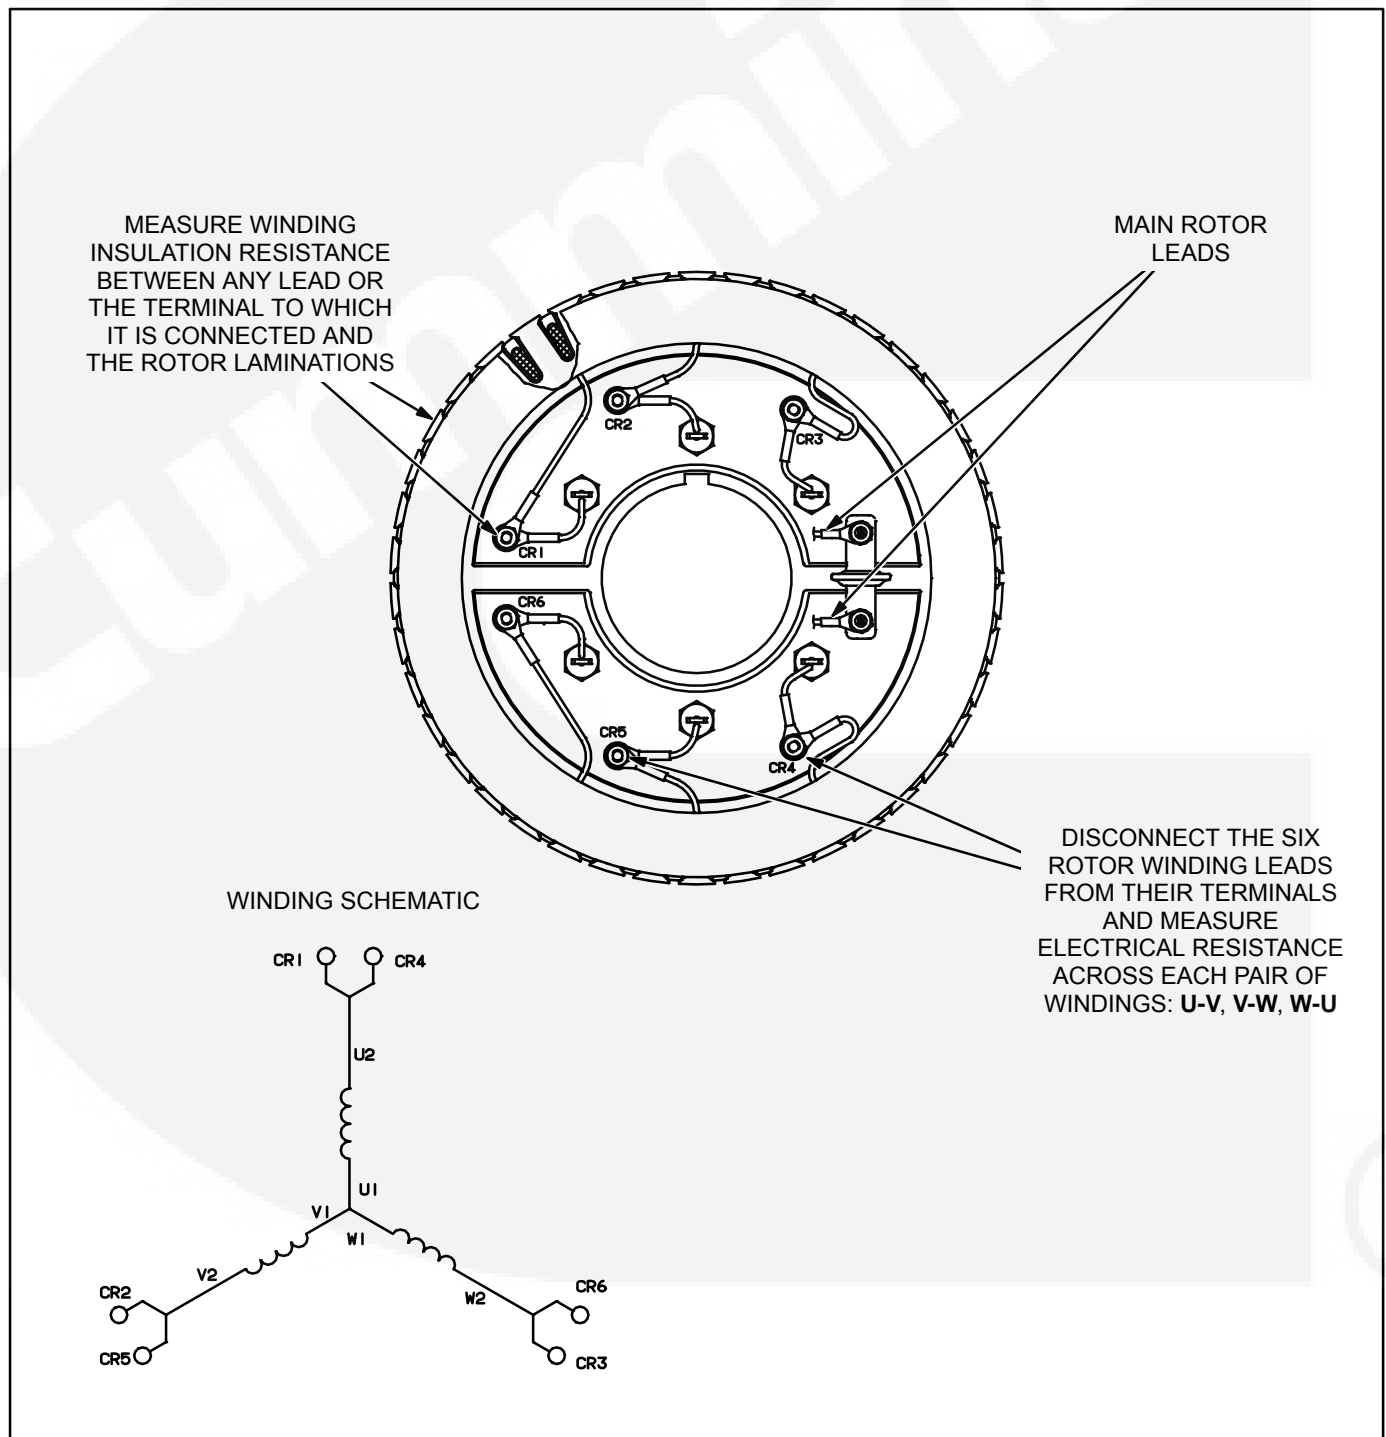

FIGURE 6-4. TESTING THE EXCITER ROTOR
**Testing Winding Resistance:** Disconnect the two leads of the main rotor from the terminals on the rotating rectifier assembly. See Figure 6-4. Measure electrical resistance between the two leads with a Wheatstone bridge or digital ohmmeter. Replace the rotor if the resistance is not as specified in Table